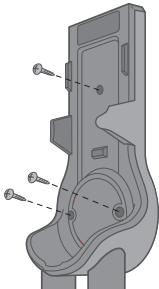

Figure 2.5
1. Mount the charging dock by screwing it into the wall near a power outlet [Figure 2.5].